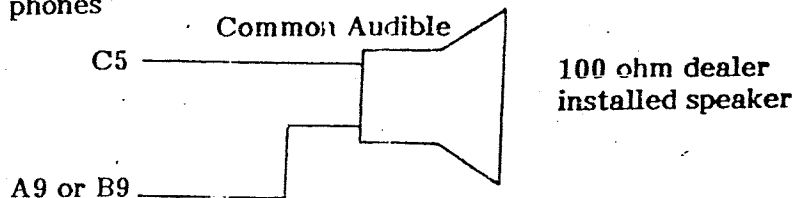

Figure 4
8. For common audible and odd intercom stations connect speakers as shown in Figures 4 and 5.